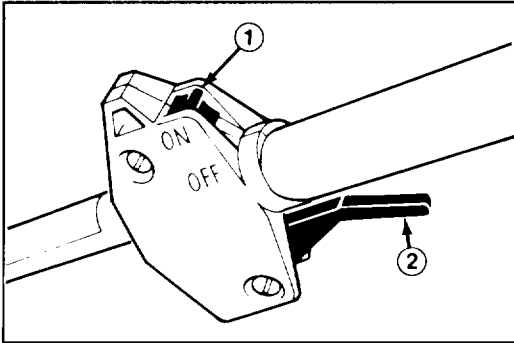

Figure 6
STARTING AND STOPPING (Fig. 6 & 7)
1. Move ignition switch to "ON" position (Fig. 6).